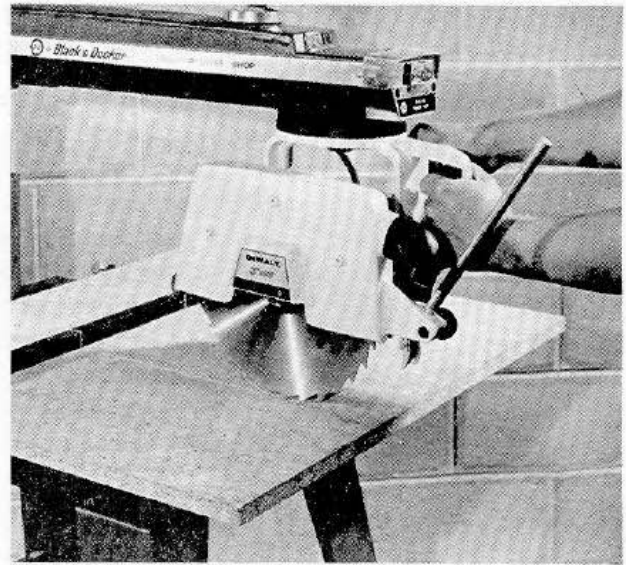

FIGURE 1
- (d) Lower the arm (saw still running) $\frac{1}{4}$ turn. Pull the saw forward to the end of the arm with your *left hand*. This will cut a groove in the table top $1\frac{1}{32}$ " deep. **Tighten Rip Lock.** (Refer to figure 1)
- (g) Return saw to position shown in figure 1. **Lock Rip Lock** and start motor. Using the yoke clamp handle, release the pressure on the bell and rotate saw counterclockwise, to the outtrip position. This cuts the swing line for outtripping. **Loosen rip lock.**
- (j) Return saw to position shown in figure 1 and move to the rear position behind the fence.